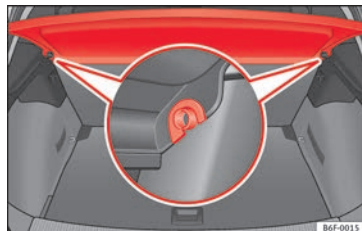

Fig. 164 In the luggage compartment: removing and installing the rear shelf.
- Remove the rear shelf from the side supports »» **Fig. 164** by pulling it upwards and then take it out.
- Insert the cover horizontally so that the “recess” fits onto the axis of the supports »» **Fig. 164** and press down until it engages.